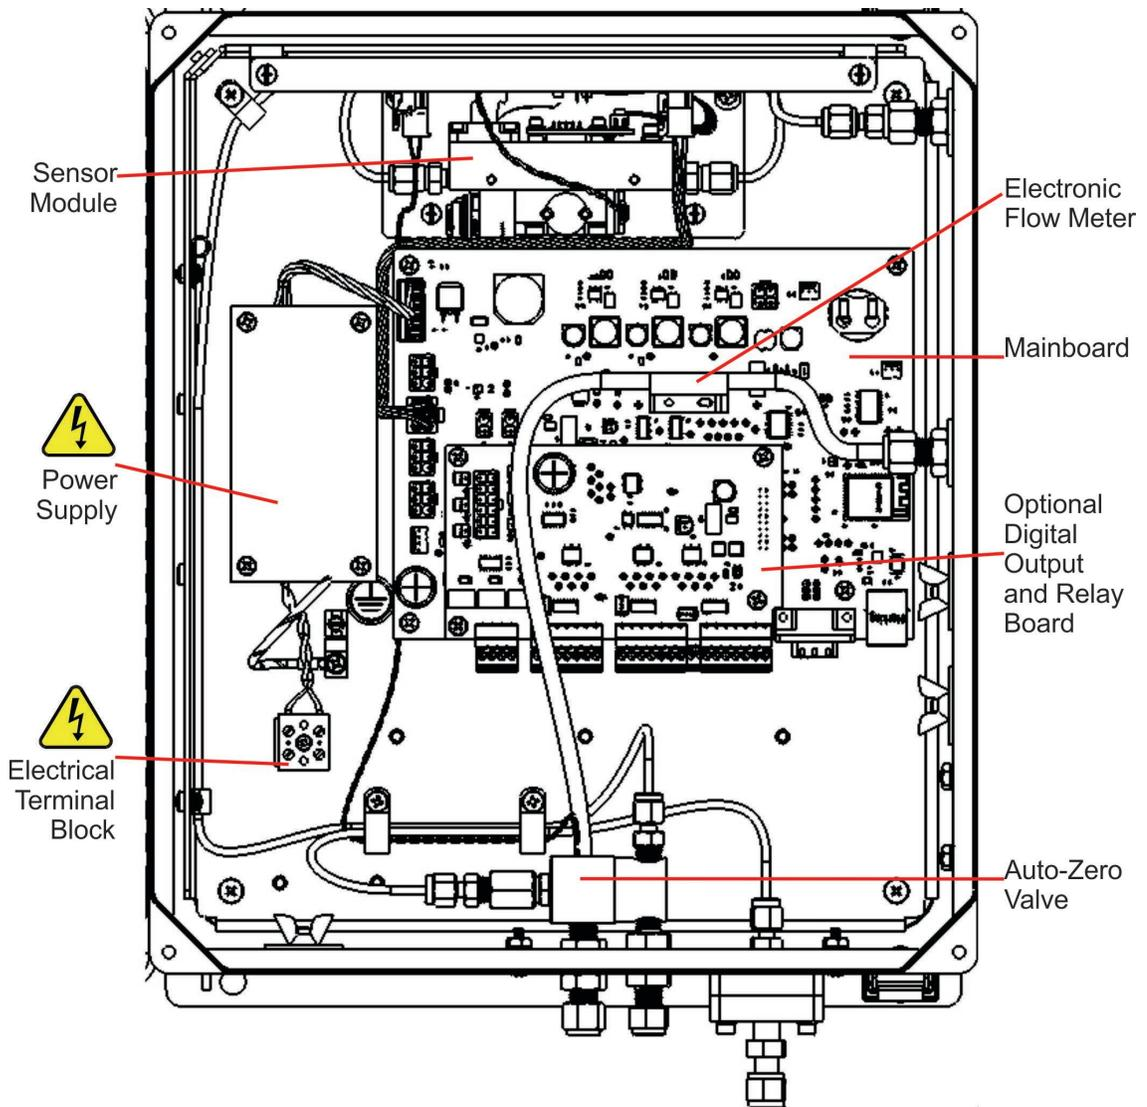

Figure 7-1. Instrument Layout
Figure 7-1 shows the internal layout of the 480H. These figures will be referenced in the procedures that follow.
3. Locate the auto-zero valve (See Figure 7-1).
7. Remove the two (2) mounting screws using a #2 Phillips screwdriver. Note that there are four screw heads visible on the top of the valve body, only two (2) of these should be removed. Use the new valve as a reference to determine which two screws need to be removed.